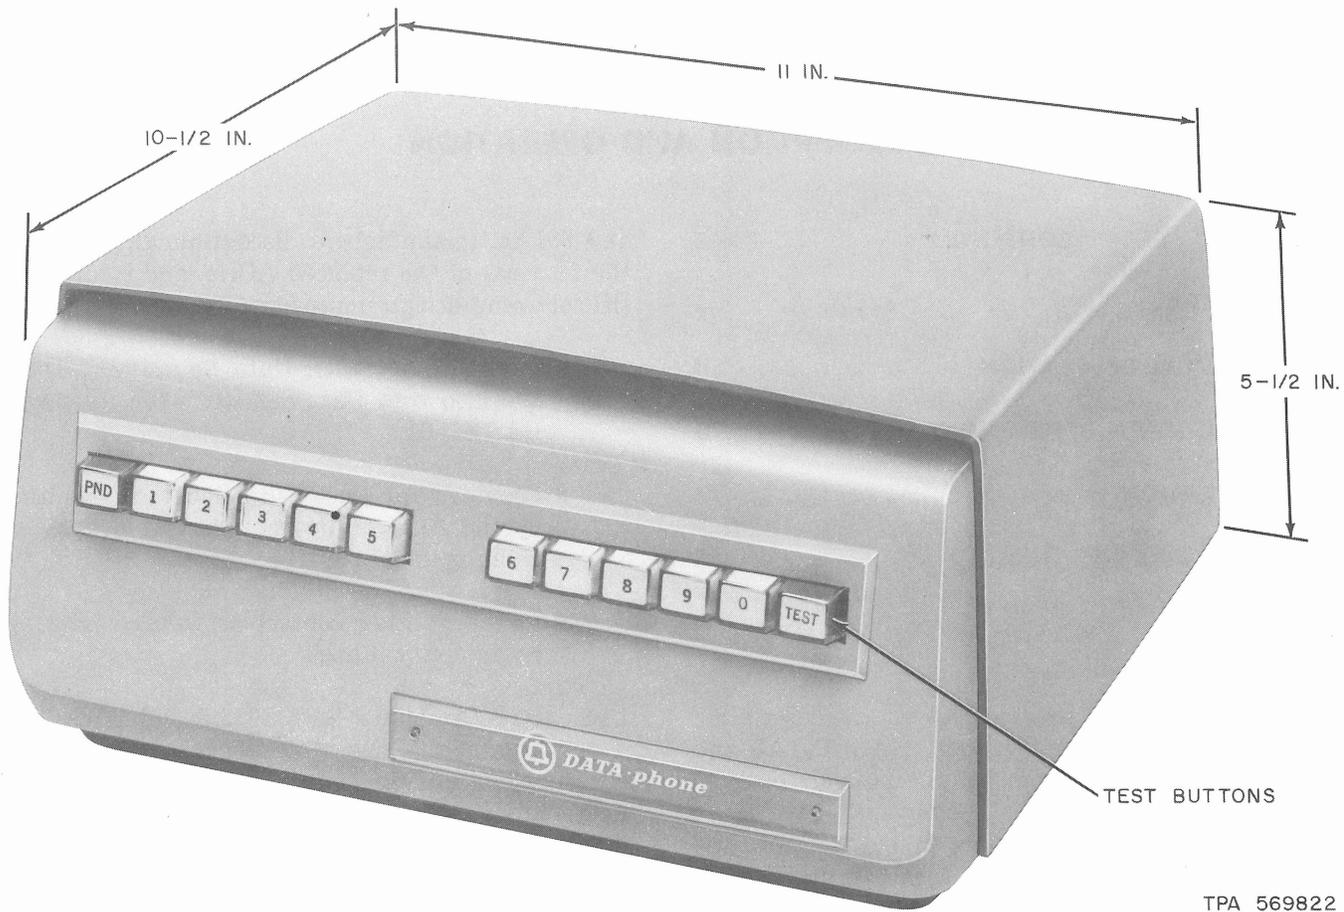

Fig. 1—Data Auxiliary Set 801A-Type, Front View
2.01 Externally, both ACUs are identical in appearance except for the designation strip on the rear of the ACU. Each is contained in a two-tone gray, nonintegrated housing having dimensions as shown in Fig. 1, and each weighs approximately 16 pounds.